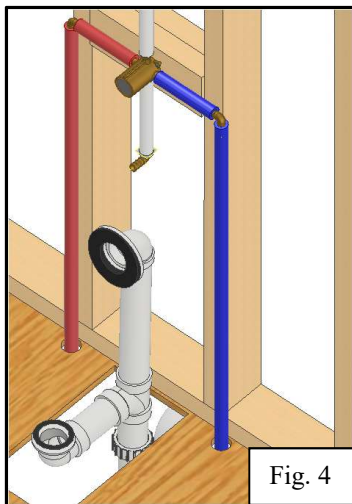

Fig. 4
- 4) Layout the holes for the shower valve, shower head, and any other supply lines. Note that your plumbing should already be fastened at this time. Slide the shower back into the alcove. Measure and mark location of the shower valve. If shower head will be located on the shower itself, mark for this hole as well. Drill a small hole at these locations and slide the shower back into the alcove. If the small holes line up, cut the larger holes in with a hole saw. Refer to the manufacturer's instructions for this. (Fig. 4 & 5)